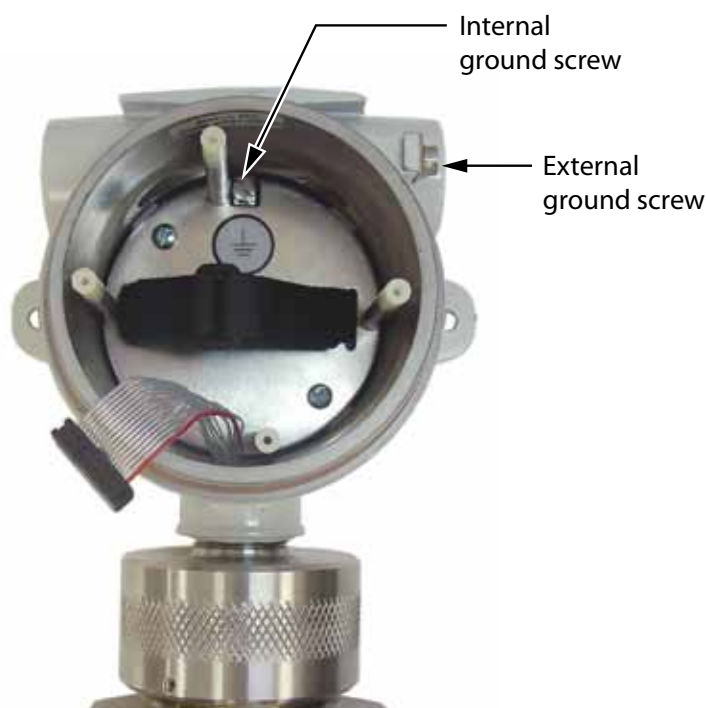

Figure 3.2—Ground screw locations
- An internal ground screw is mounted inside the enclosure near the top of the backplate. FOUNDATION™ fieldbus cable can be routed through a conduit opening in the top of the Scanner 2000 enclosure and connected to this ground screw (Figure 3.2).
If national or local electrical codes require the enclosure to be grounded, a protective earth grounding conductor may be required. To install a protective earth ground, connect an earth ground conductor to the stainless ground lug near the top of the Scanner 2000 enclosure (also shown in Figure 3.2) or to the internal ground screw, and connect the other end to a ground rod or other suitable system earth ground. The ground lugs will accept wire sizes from 14 AWG solid conductor to 4 AWG stranded conductor.